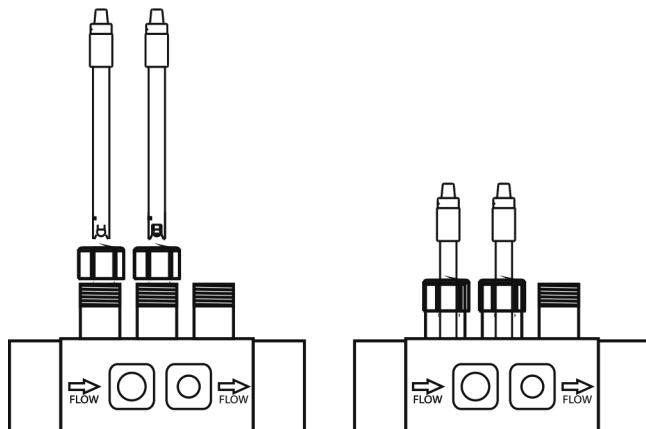

Fig. 12
1. Insert the pH and ORP sensors into their corresponding places of the holder (Fig. 12)